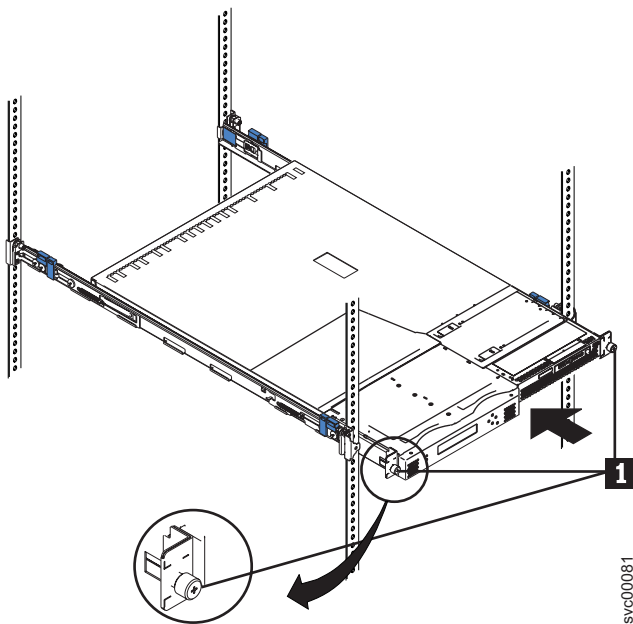

Figure 40. Sliding the SAN Volume Controller 2145-8F4 into the rack
2. Latch the two latches on the front of the rack to attach the node to the rack. (**1** in Figure 40).
Note: The front of the rail assembly looks different from the front, as you can see in Figure 40.